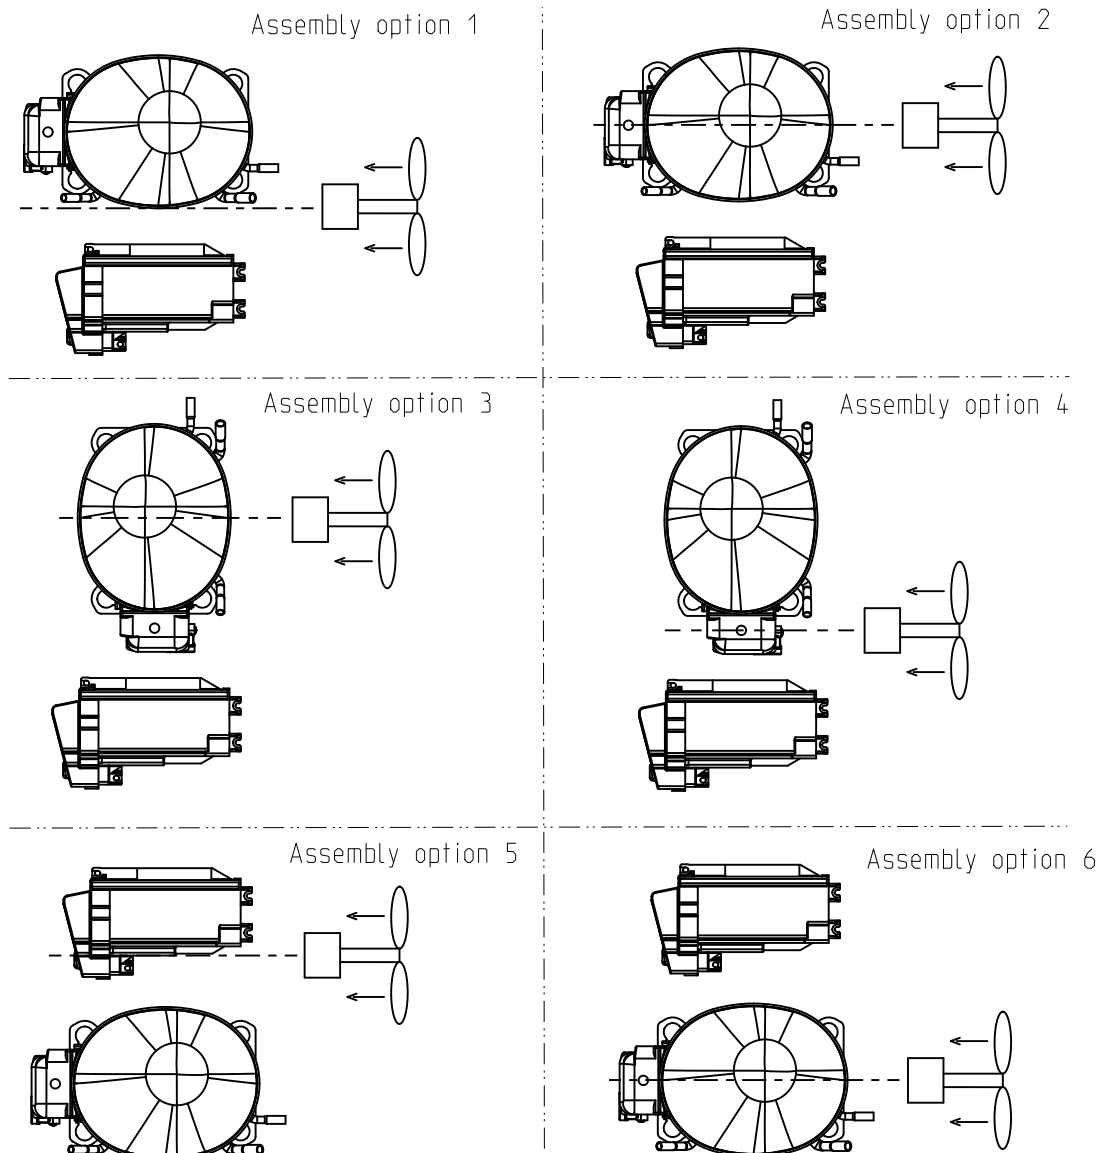

Figure 3.5: Air flow directioni
Recommended position of fan + compressor + inverter are shown in the Figure 3.5. All mentioned positions are acceptable. Considering specific aspects as inverter and motor-compressor cooling, the most recommended are positions 1-4. The last recommended but still acceptable are positions 5 and 6.
- The electronic Inverter must be installed in the vertical position. Refer to Figure 3.5 for recommended assembling positions.